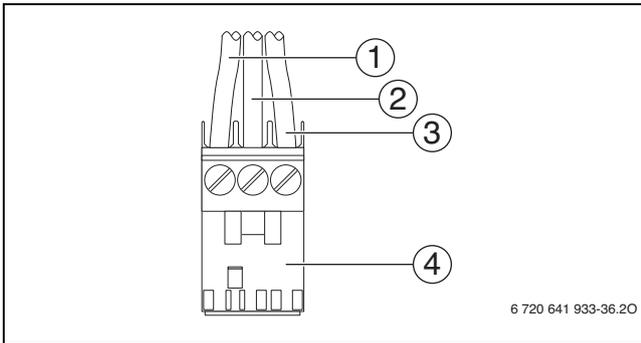

Fig. 48 Attach plug (mains power supply)
- ▶ Connect cable to **the white plug** according to Fig. 48.
- ▶ Connect the lead labeled BOILER GROUND (green) to pin 2 (center, → Fig. 48 [2]) of the white plug in the boiler junction box.